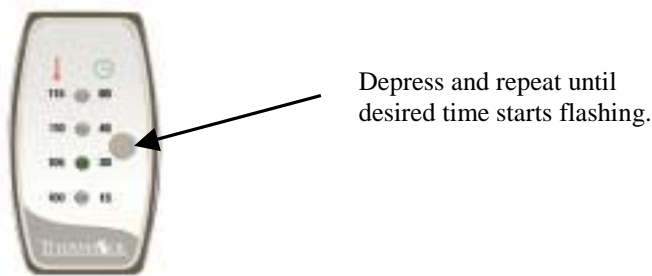

Figure 3
- 2. Changing Session Time.** While the green LED is still flashing (within 4 seconds), momentarily press the "Control Button". Repeat until the green LED associated with your desired time starts flashing. Once the desired time is flashing, wait 4 seconds and that time will be accepted by the control. (figure 3)